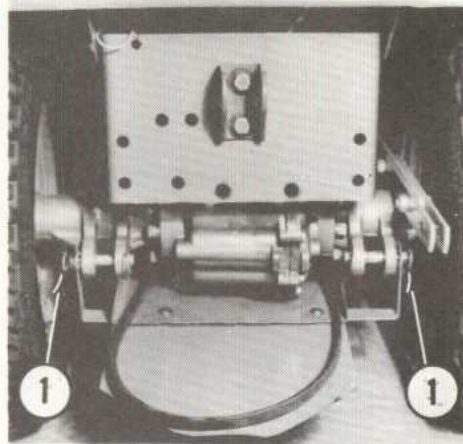

FIG. 11
4. Attach belt shield to rear of Tractor, as shown in Fig. 11, and secure with 1/8" hairpins (1).